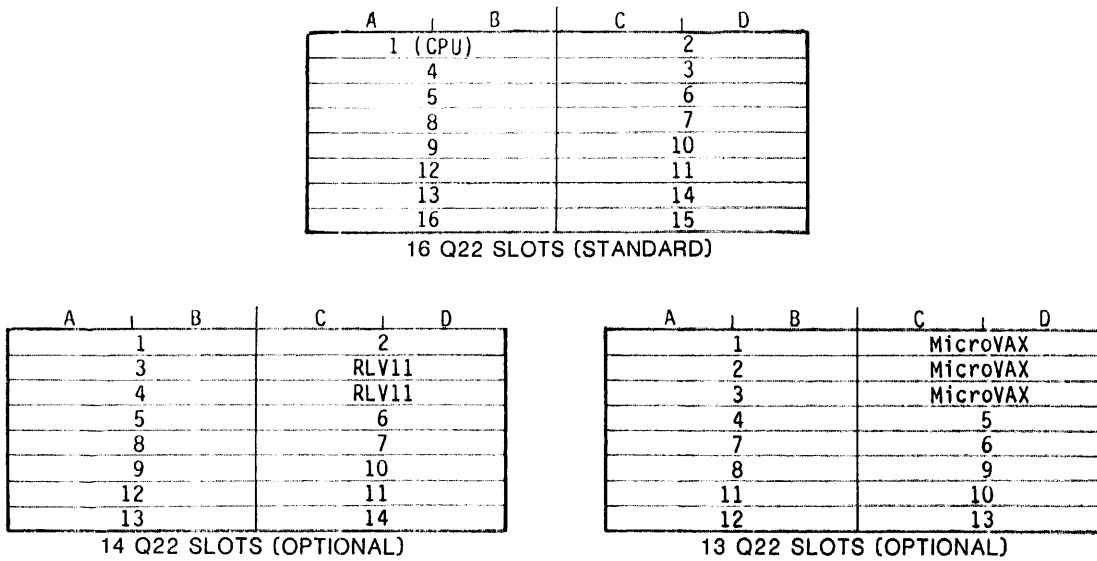

FIGURE 2-2: BACKPLANE PRIORITY STRUCTURE
Modules plug directly into the backplane with priorities determined by the interrupt level of the module and by its distance from the CPU (backplane priority). When more than one device with the same interrupt level requests interrupt service, the device that is closest to the CPU (lowest backplane priority) will receive the interrupt grant first. Figure 2-2 defines the device priorities for the backplane.
5. Install the chassis on the slides. Plug the AC cord into a proper main receptacle and switch the power ON/OFF switch to the ON position. Check DC voltages as defined in Table 2-2. The voltages should be measured on the backplane (Figure 2-2). See Appendix A for Q bus pin assignments.